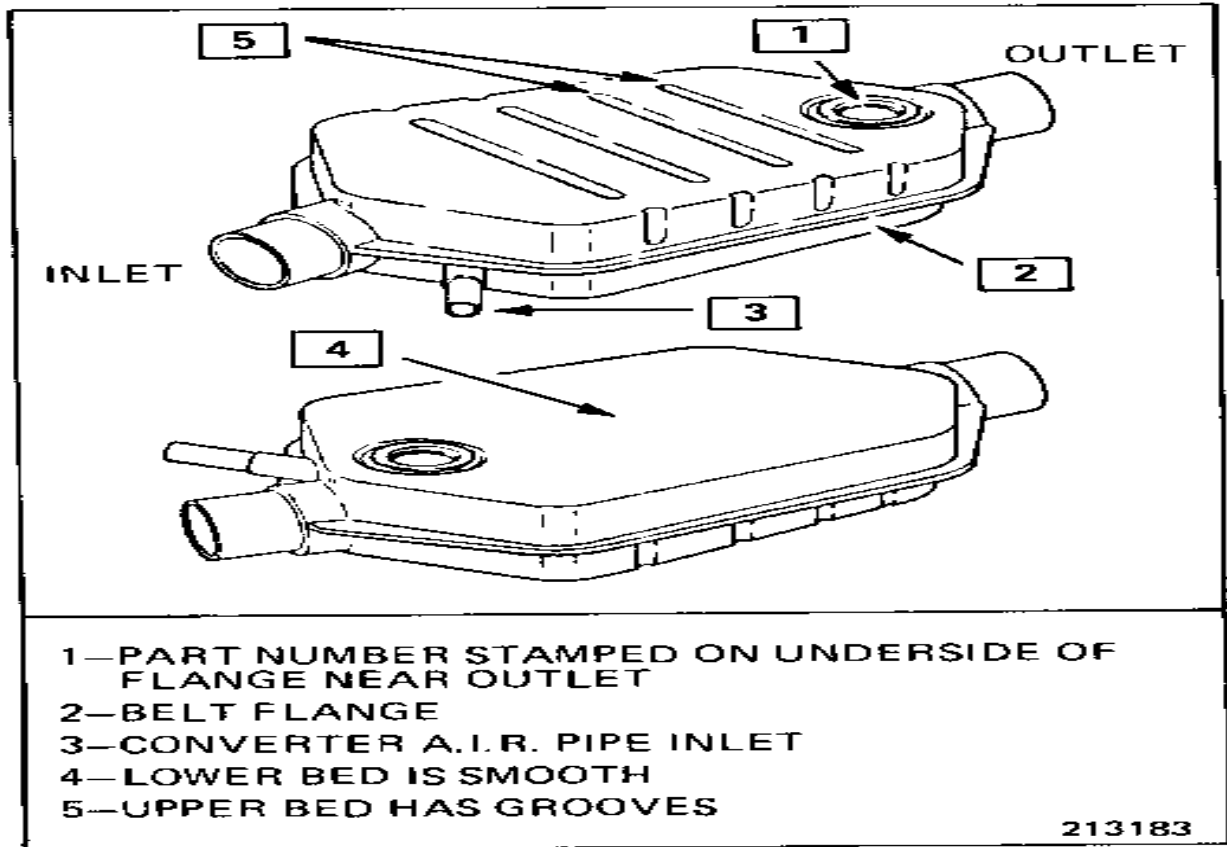
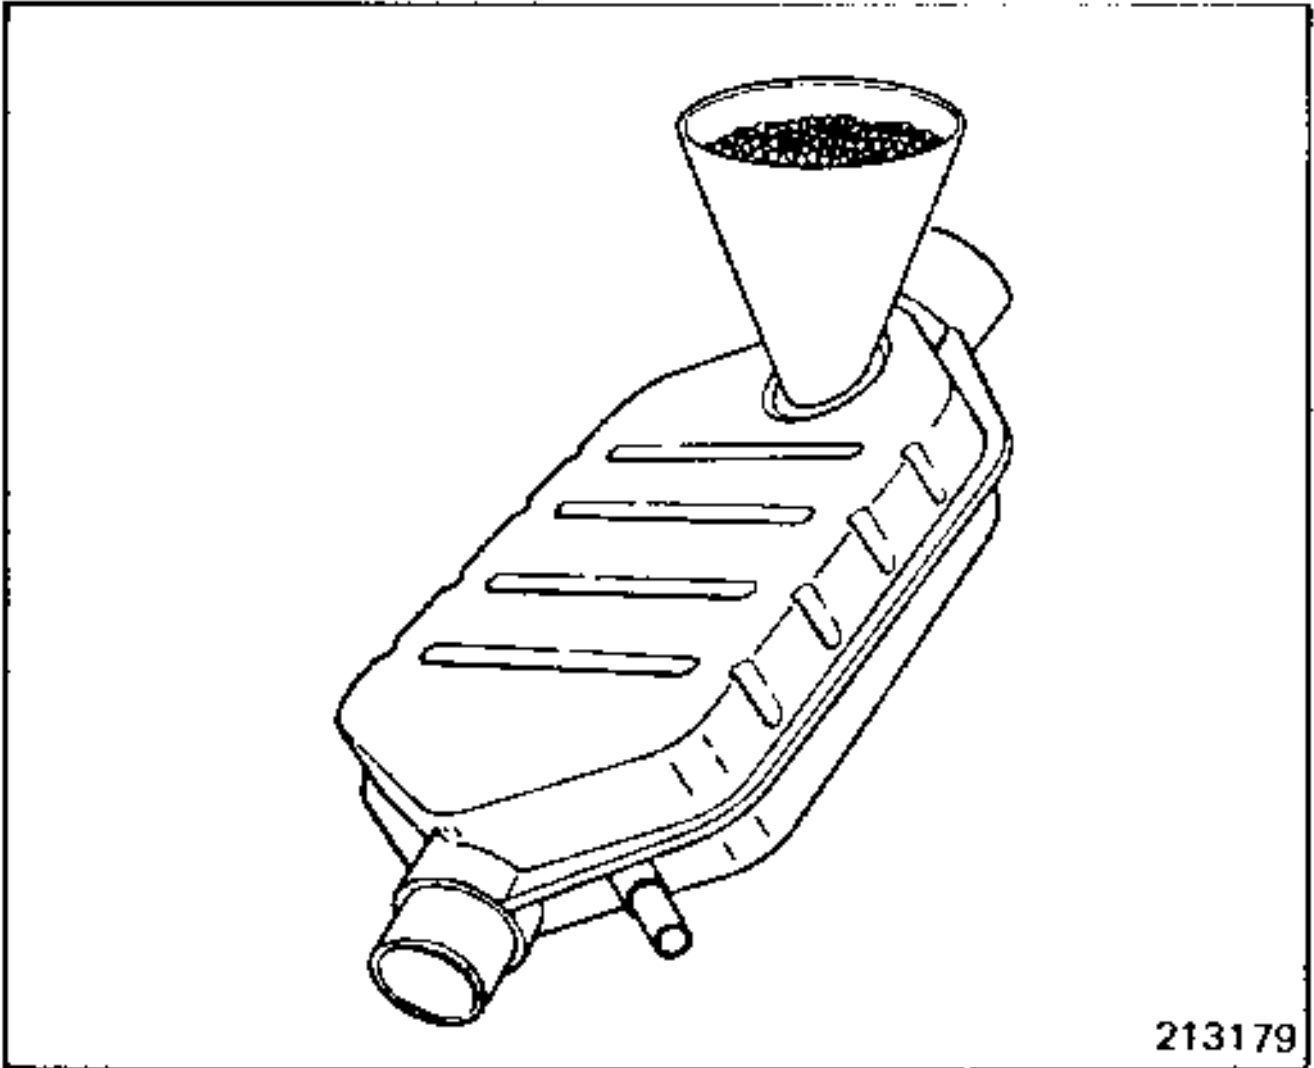

Figure 1
Figure 2
2. Refer to Figure 1 for location of catalytic converter part number.
5. Stand old converter upright on inlet end and pour two (2) 8 ounce cups of water into outlet end to control catalyst dust.
6. Using hammer and chisel, remove upper bed fill hole plug (see Figure 1 for description of upper and lower beds) from old converter by driving chisel between the converter shell and rim of fill plug. Deform fill plug until it can be removed with pliers.
7. Hold converter over a clean pan (J-34155-2) and empty catalyst beads by shaking and tapping converter belt flange (Figure 1) with rubber mallet.
9. Prop new converter up at a 45° angle with upper bed fill hole at top. (See Figure 1 for a description of upper and lower beds.) Tap funnel J-34155-3 into converter fill hole with hammer (Figure 2).
16. Hold converter over a clean pan (J-34155-2) and empty catalyst beads by shaking and tapping converter belt flange (Figure 1) with rubber mallet.
18. Prop new converter up at a 45° angle with lower bed fill hole at top. (See Figure 1 for definition of upper and lower beds.) Tap funnel J-34155-3 into converter fill hole with hammer (Figure 2).